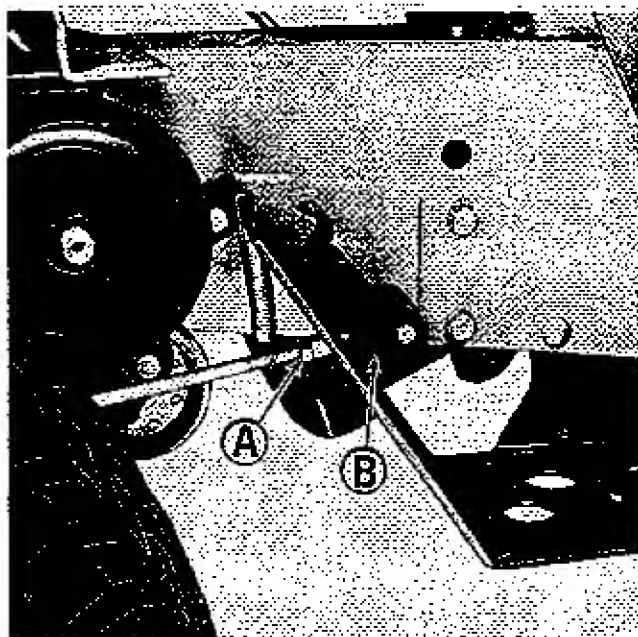

Figure 12. Parking brake adjustment on right side of tractor.
1. See figure 12. NOTE: ALL DIRECTIONS GIVEN FOR ADJUSTING THE PARKING BRAKE, ARE AS IF YOU ARE STANDING AT THE FRONT OF THE TRACTOR LOOKING BACK TOWARD THE PARKING BRAKE. Loosen nut (A) by turning it clockwise.
2. See figure 12. After insuring the tractor is either on a level surface or the wheels are blocked so it will not roll, pull forward on the parking brake handle (B) to disengage the parking brake.
3. Rotate parking handle (B) clockwise to tighten the parking brake, or counter-clockwise to loosen it. Turn the brake one complete revolution when making any adjustment.
After turning the handle (B) one revolution place it in the engaged position to check it for correct adjustment. The correct engaged position is as shown in figure 12, with the handle at approximately in the 11 o'clock position as you face it from the front of the tractor.
4. After the correct adjustment has been made, use a wrench to tighten nut (A) securely by turning it counter-clockwise.